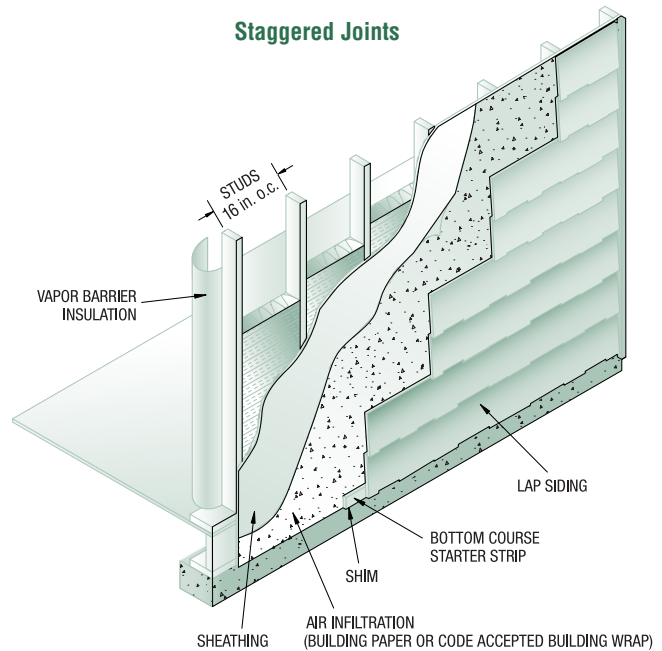

FIG. 6
- Starter strip should be 4-5 in. wide, 1/2 in. thick and be installed to hang below shim approximately 1 in. See Fig 6. (If desired, the starter strip can be cut from **Designer Shake** and the bottom half of the lap used for the top course.)